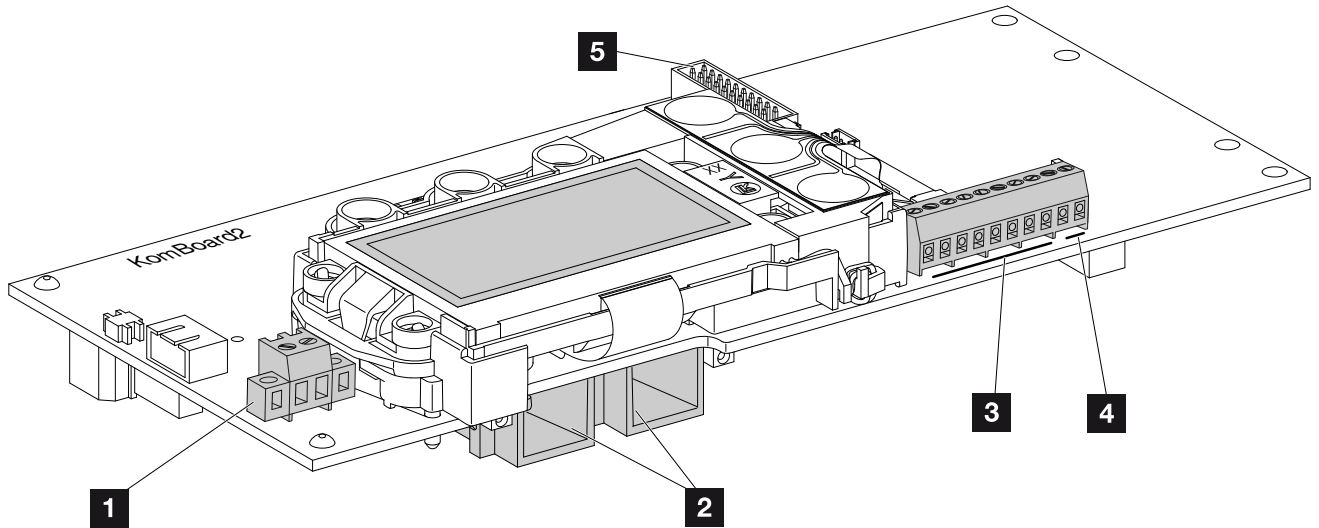

Fig. 39: Components of the communication board
6. Plug the sockets and plugs of the DC strings onto the inverter. **Fig. 39**